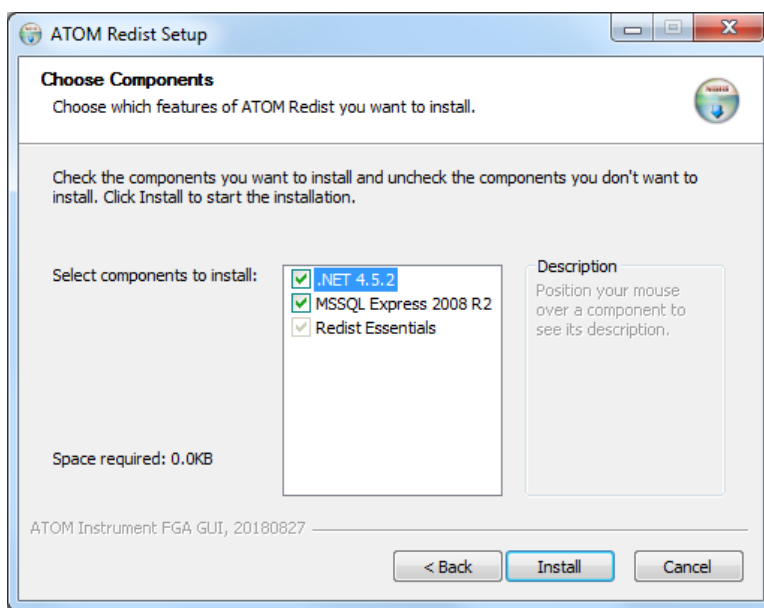

Figure 3.8
3. Leave all options “checked”, and click **Install** (*Figure 3.8*).